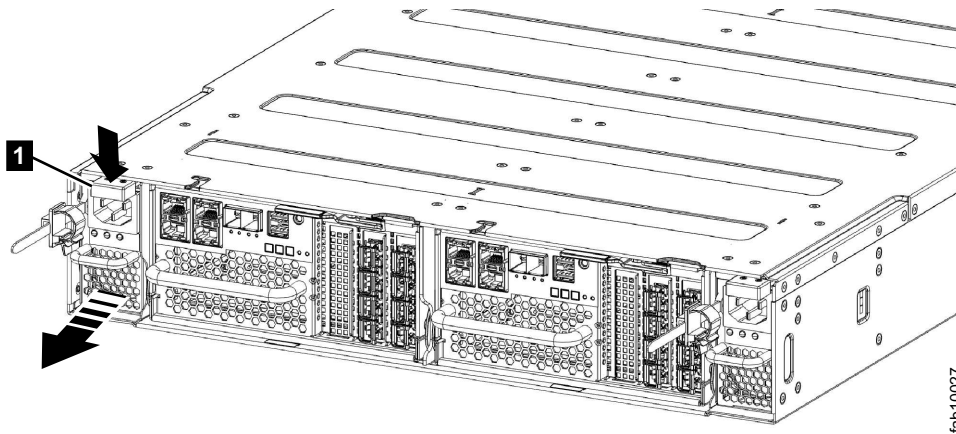

Figure 52. Removing the power supply unit (left side of enclosure)
5. Using the handle, firmly pull the power supply out of the enclosure that is shown in Figure 52 on page 189.